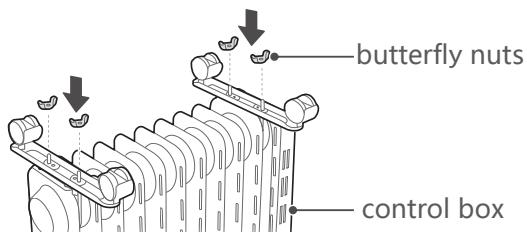

figure 2
- 3,As shown in figure 2, two sets of caster components are tightened with four butterfly nuts. Install solid and then put the heater in place-just put the wheels on the ground.